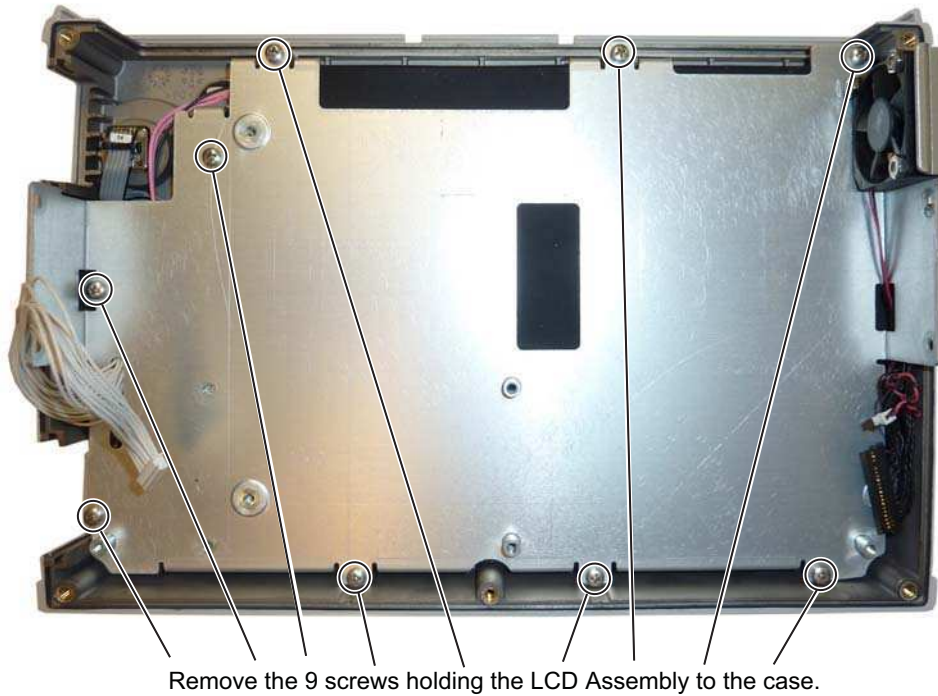

Figure 7-8. Removing the LCD Assembly
3. Remove the 9 screws connecting the LCD Assembly to the front half of the case (Figure 7-8).